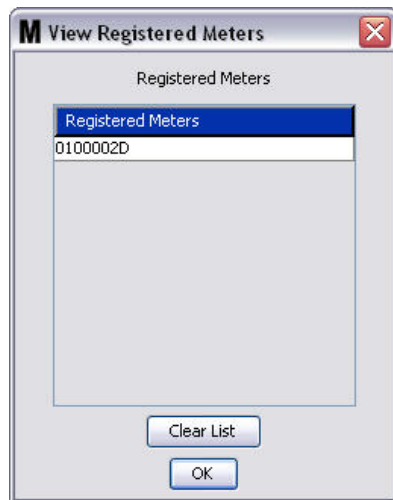

FIG. 134
- **LINK/UNLINK button** - When all parameters on the Meter Profile screen have been completed, click the Link button to display the Meter Profile/ID Assignment screen shown in FIG. 134. From the list of registered Meters, select a meter to associate the profile to from the list. Click OK to close the screen and save the changes.